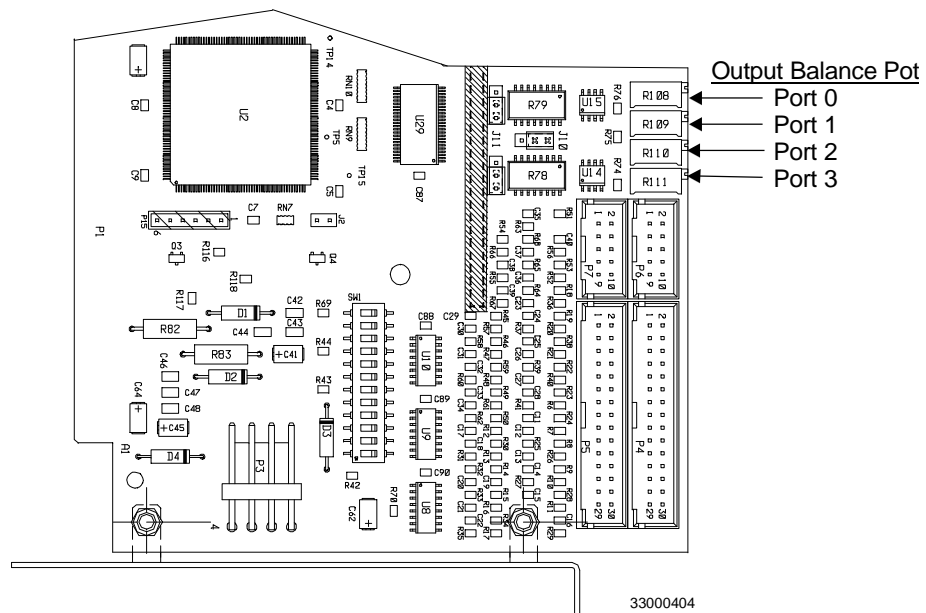

Figure 5, ANILAM DSP² Board Balance Pots, P/N 33000404
Refer to **Figure 5, ANILAM DSP² Board Balance Pots, P/N 33000404**. Measure command voltages across TP1 and TP2 of the test board.
3. Refer to **Figure 5**. Make adjustments for axis outputs 0-3 on the DSP² Board at potentiometers R108-R111 respectively.